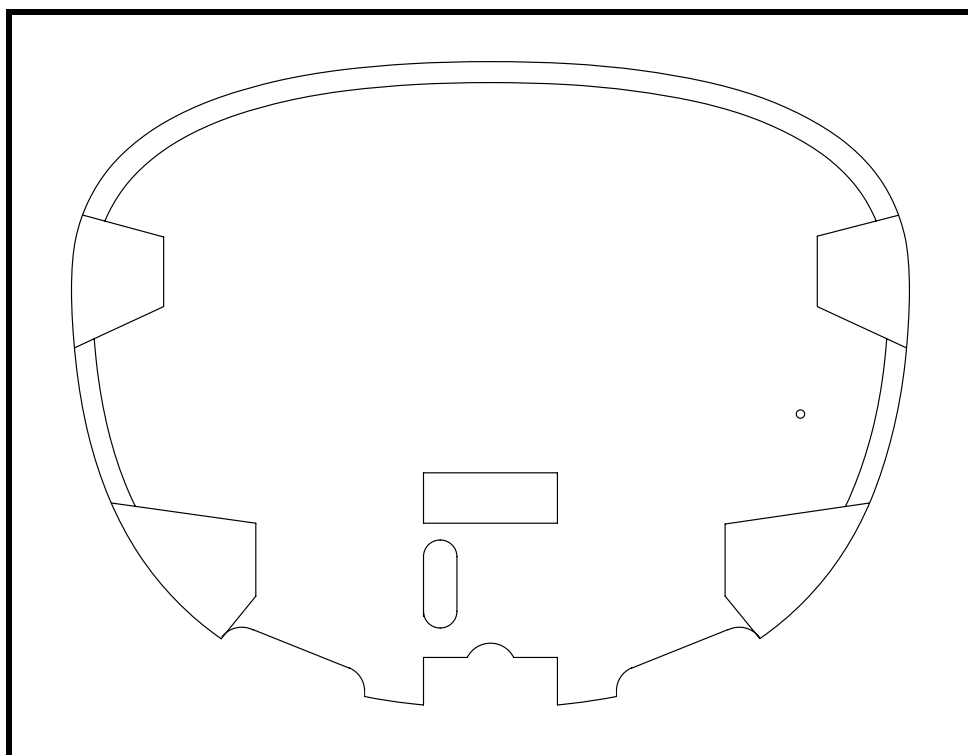

Figure 10
- ❑ Glue on 25mm wide 2mm plywood spacers around the perimeter of the fuselage frame on the forward face only as shown in Figure 10. The purpose of these spacers is to provide a flat surface for the cowling supports.